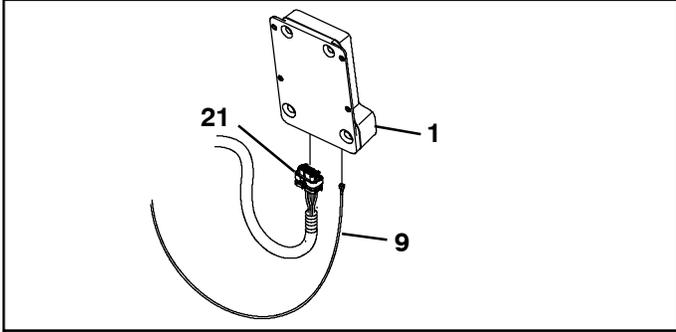

FIG. 8
- Connect the antenna (9) cable and the telemetry harness (21) to the telemetry control box (1). (FIG. 8)